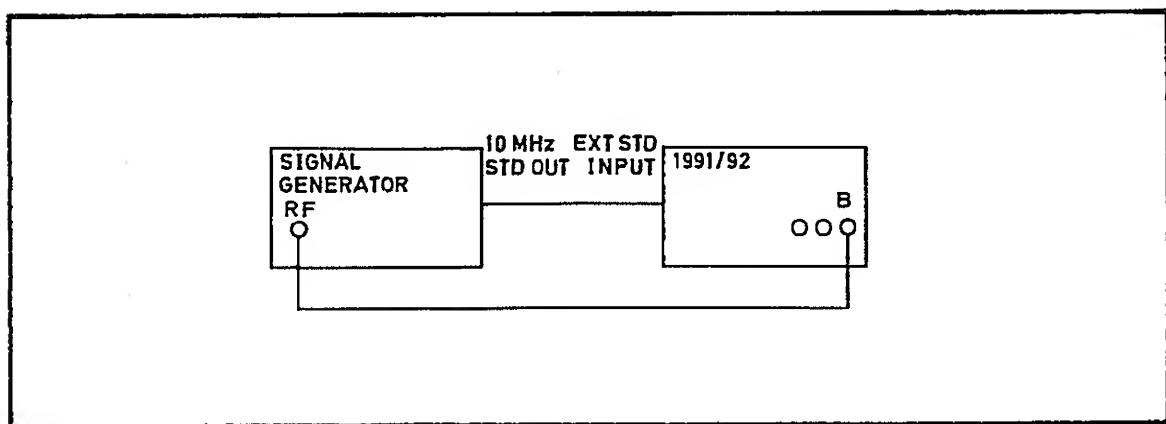

Fig 7.17 Connections for Channel B Sensitivity PVP
- (1) Select 50 Ω on channel B.
- (2) Connect the test equipment as shown in Fig 7.17. Check that the EXT STD indicator lights.
- (3) Press **2** **1** **SHIFT** **STORE** **SF** **SHIFT** **SF**
- (4) Set the signal generator output to the frequencies shown in Table 7.6 in turn. Set the 1991/92 resolution to the corresponding value.
- (5) At each frequency, determine the minimum input level to the 1991/92 which gives stable counting. Verify that this is not more than the level shown in the table.
- (6) Disconnect the test equipment.